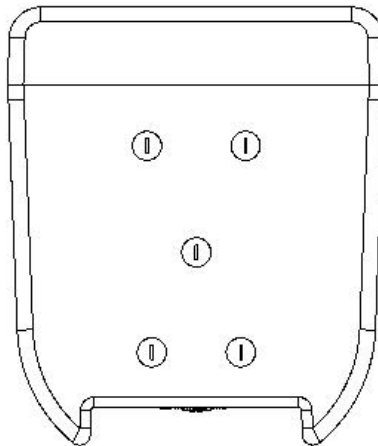

Figure 1
For One Systems 108/HTC, 108/HTH and 208/HTC enclosures, two (2) “eye” bolts must be used for an “upside down” configuration, or a bottom mount configuration. This is shown below in figure 1. Two points **must** be used, and the center point (a third point) may be used for aiming.